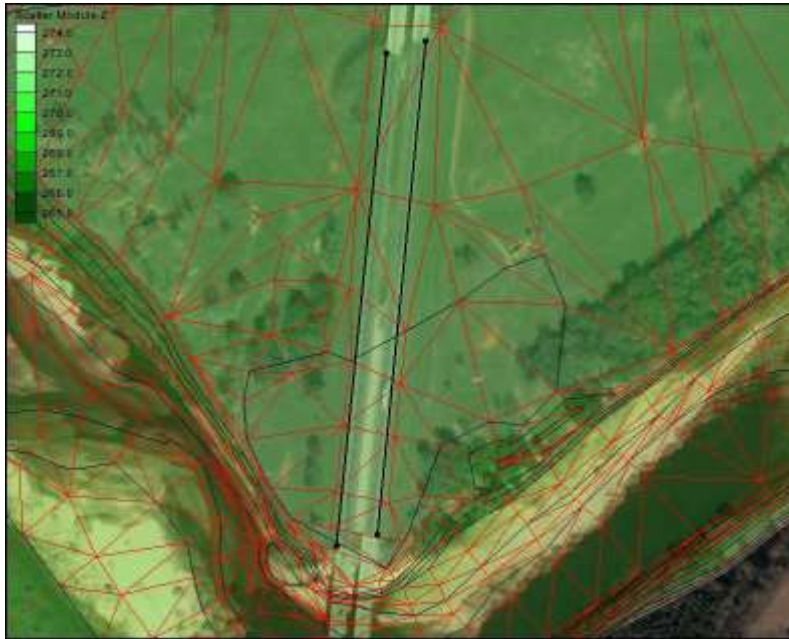

Figure 13 Arcs along embankment edges
1. Zoom in to the bottom of the TIN as seen in Figure 13.
3. Create two arcs as shown in Figure 13. No intermediate points are required at this time.